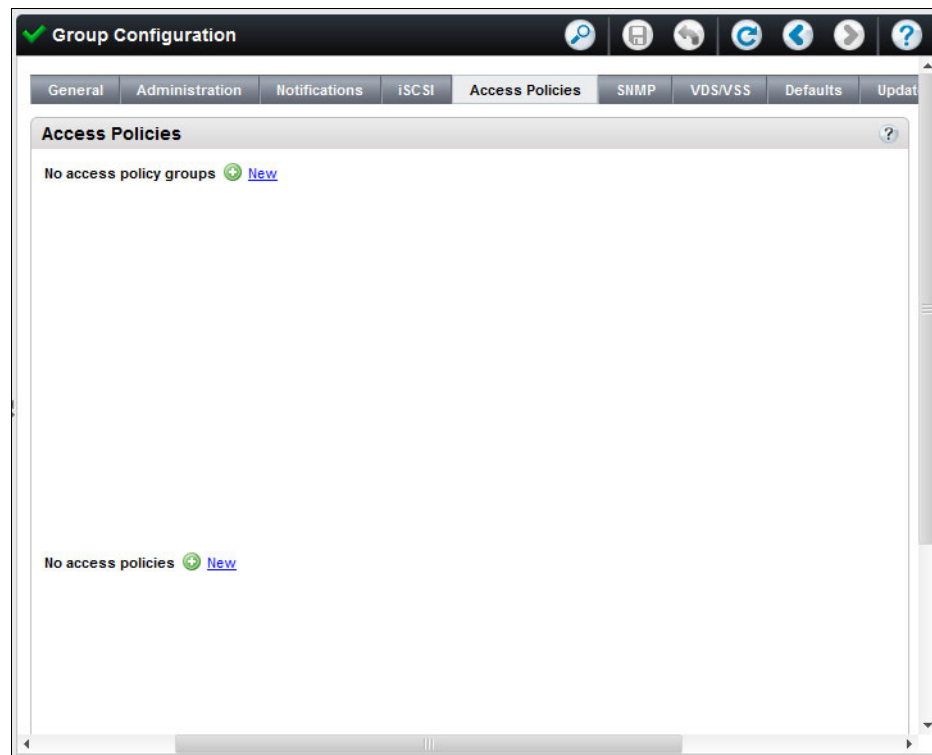

Figure 14-7 Adding an access policy
2. Open the Group Configuration window and click the **Access Policies** tab, as shown in Figure 14-7.